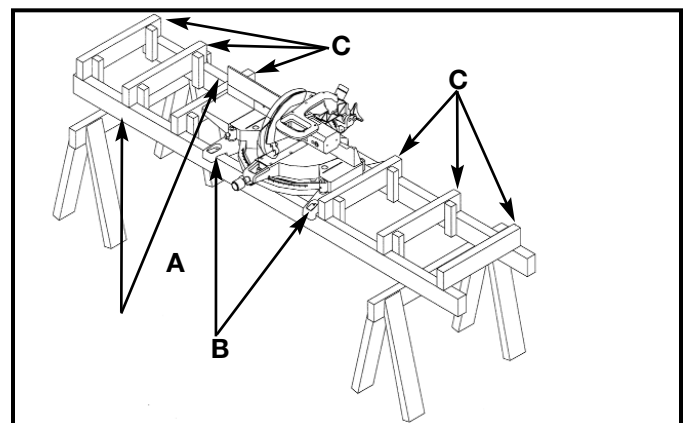

Fig. 42A
For support when cutting long pieces, construct a work support extension. Fig. 42A illustrates the miter saw mounted on two standard 2 x 4's (A). Fasten the four mounting legs (two of which are shown at (B) Fig. 42A to the 2 x 4's, using four screws (not supplied) through the four holes in the mounting legs. The length of the 2 x 4's (A) can vary, depending on the workpiece.